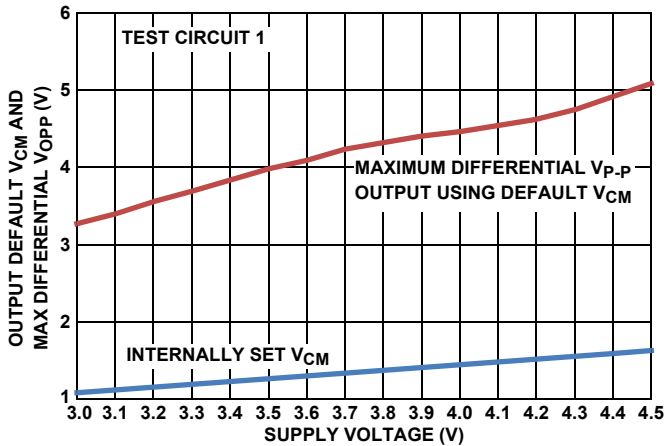
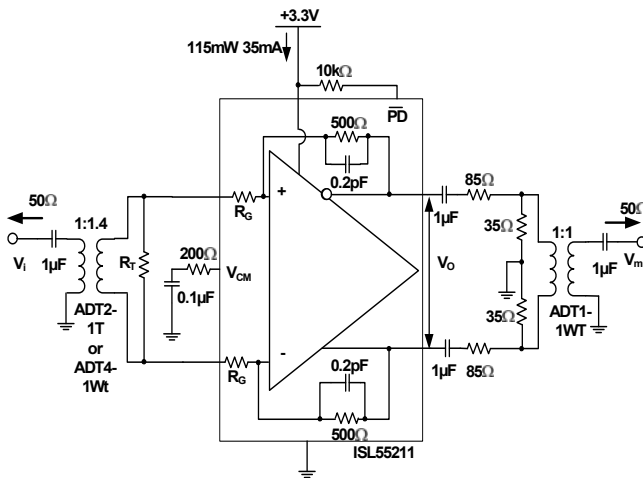
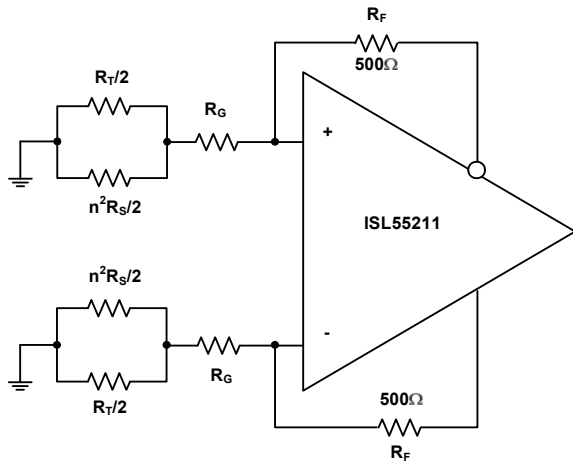
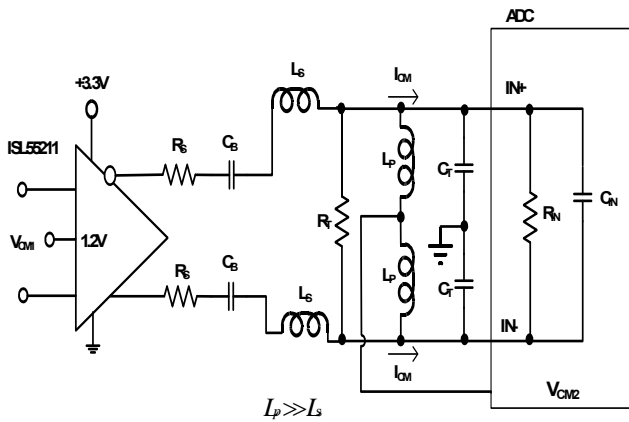

FIGURE 27. DEFAULT V_{CM} AND MAX V_{OPP} vs SUPPLY VOLTAGE
FIGURE 29. TEST CIRCUIT 1
FIGURE 35. NOISE GAIN MODEL FOR THE TRANSFORMER COUPLED INPUT CIRCUIT OF FIGURE 29
FIGURE 37. AC-COUPLED, HIGHER FREQUENCY RLC INTERSTAGE FILTER DESIGN
Test Circuit 1 of Figure 29 forms a starting point for many of the characterization curves for the ISL55211. Since most lab sources and measurement devices are single-ended, this circuit converts to differential at the input through a wideband transformer and would also be a typical application circuit coming from a single-ended source. Assuming the source is a 50 Ω impedance, the internal R_G resistors and external R_T are set to provide both the input termination and the gain. Since the inverting summing nodes act as virtual ground points for AC signal analysis, the total termination impedance across the input transformer secondary will be $(2 * R_G) || R_T$. Setting this equal to $n^2 * R_S$ will give a matched input impedance inside the bandwidth of the transformer (where "n" is the turns ratio). The amplifier gain is fixed by the selected input R_G element and the internal 500 Ω feedback resistors. While the ISL55211 is internally a Voltage Feedback Design (VFA) to give the lowest possible noise, internal compensation caps hold the bandwidth over gain setting approximately constant at 1.4GHz. For wider small signal bandwidth at lower gains, consider the ISL55210, which provides >2.2GHz at a gain of 12dB.
Working with a transformer coupled input as shown in Figure 29, or with two DC blocking caps from a differential source, means the output common mode voltage set by either the default internal V_{CM} setting, or a voltage applied to the V_{CM} control pin, will also appear as the input common mode voltage. This provides a very easy way to control the ISL55211 I/O common mode operating voltages for an AC-coupled signal path. The internal common mode loop holds the output pins to V_{CM} and, since there is no DC path for an I_{CM} current back towards the input in Figure 29, that V_{CM} setting will also appear as the input common mode voltage. It is useful, for this reason, to leave any input transformer secondary centertap unconnected. The internally set V_{CM} voltage is referenced from the negative supply pin. With a single 3.3V supply, it is very close to 1.2V but will change with total supply voltage across the device as shown in Figure 27.
Most of the characterization curves starting with Figure 29 then get different gains by changing the connections to the two pairs of input R_G connections, as shown on the pin configuration drawing on page 2. Two input turns ratios are intended for Test Circuit 1; either a 1:1.4 turns ratio (ohms ratio of 2) or a 1:2 turns ratio (ohm ratio of 4). The specific transformers shown in Figure 29 are representative of broadband RF transformers but alternate devices and manufacturers of these turns ratio devices are certainly applicable. The output side of this test circuit presents a differential 200Ω load while converting the differential to single-ended through a resistive attenuator and a 1:1 transformer. This inserts approximately a 17dB insertion loss that is removed to report the characteristic curves. For load tests below the 200Ω shown in Figure 29, a simple added shunt resistor is placed across the output pins. For loads $> 200\Omega$, the series and shunt load R's are adjusted to show that total load (including the 50Ω measurement load reflected through the 1:1 output measurement port transformer) and provide an apparent 50Ω differential source to that transformer. This output side transformer is for measurement purposes only and is not necessary for final applications circuits. There are output interface designs that do benefit from a transformer as part of the signal path as shown in Figure 1. In that case, the 1:1.4 output side transformer becomes part of a filter design and recovers the filter insertion loss from the amplifier output pins to the ADC inputs.
The characterization circuit of Figure 29 shows one possible input stage interface that offers several advantages. Where AC coupling is adequate, the circuit of Figure 29 simplifies the input common mode voltage control. If the source coming into this stage is single-ended, the input transformer provides a zero power conversion to differential. The two gain resistors (R_G in Figure 29) provide both a portion of the input termination impedance and the gain element for the amplifier. For 50Ω systems, these R_G resistors are too high with the turns ratios shown in Figure 29 to provide the full match and an external R_T resistor is required. This R_T element goes away at the highest gain setting using a 1:2 input turns ratio transformer.
This input interface also simplifies the input common mode control. The V_{CM} pin controls the output common mode voltage. In most DC-coupled FDA applications, the input common mode voltage is determined by both this output common mode and the source signal. In a configuration like Figure 29, there is no path for a common mode current to flow from output to input, so the input common mode voltage equals the output. A similar effect could be achieved with just two blocking caps on the two R_G resistors. A DC-coupled, single to differential, configuration will also have a common mode input that is moving with the input signal. Converting to just a differential signal at the amplifier, as in Figure 29, removes any input signal related artifacts from the input common mode making the ISL55211 behave as a differential only VFA amplifier. There is only a very small differential error signal at the inputs set by the loop gain, as in a
of 1.3V for instance, then $1.3V + 0.9V + 1.5V = 3.7V$ will give an unclipped 3.6V_{P,P} output capability. The $V_{P,P}$ reported in Figure 27 is an asymmetrically clipped maximum swing. Going 10% above this 3.7V target to 4.1V will be within the recommended operating range and give some tolerancing headroom that would also suggest the V_{CM} voltage be moved up to approximately 1.5V, which coincides with the default output V_{CM} from Figure 27. Operating at +4.1V single supply in a Figure 29 type configuration will give the maximum linear differential output swing of 3.6V_{P,P}.
The differential inputs internal to the ISL55211 also have operating range limits relative to the supply voltages. Operating in an AC-coupled circuit like Figure 29 will produce an input common mode voltage equal to the outputs. The inputs can operate with full linearity with this V_{CM} voltage down to 1.1V above the $-V_S$ supply. On the default 1.2V output V_{CM} on +3.3V supplies this gives a 100mV guardband on the input V_{CM} voltages. Overriding the default V_{CM} by applying a control voltage to the V_{CM} pin should be done with care in going towards the negative supply due to this limit. On the + side, the maximum input V_{CM} above the $-V_S$ supply is 2V so there is more room to move the output V_{CM} up than down from the default value.
+85°C maximum operating ambient from Figure 27, we get $4.5V \times 45mA \times 120^\circ C/W = +24^\circ C$ rise above +85°C or approximately +109°C operating T_j maximum - still well below the specified Absolute Maximum operating junction temperature of +135°C.
Adding an input transformer can improve the input referred noise by adding a noiseless voltage gain. Starting from Test Circuit 1 of Figure 29, and assuming the source shows a matched broadband source R_S that will be matched by the input referred parallel combination of $2 * R_G || R_T$, a noise gain analysis circuit can be developed as shown in Figure 35.
Stepping through the 3 gain settings with two input transformers will allow the noise gain to be calculated for the circuit of Figure 35, which is all that is needed in Equation 1 to arrive at an output differential noise (since R_F is fixed at 500 Ω). Doing this gives Table 4.
2. AC-coupled, higher frequency range interstage filter design. This design replaces the R_T resistors in Figure 35 with large valued inductors and implements the filter just using shunt resistors at the end of the RLC filter. In this case, the ADC V_{CM} can be tied to the centerpoint of the bias path inductors (very much like a Bias-T) to provide the common mode voltage and current to the ADC inputs. These bias inductors do limit the low frequency end of the operation where, with $1\mu\text{H}$ values, operation from 10MHz to 200MHz is supported using the approach of Figure 37.